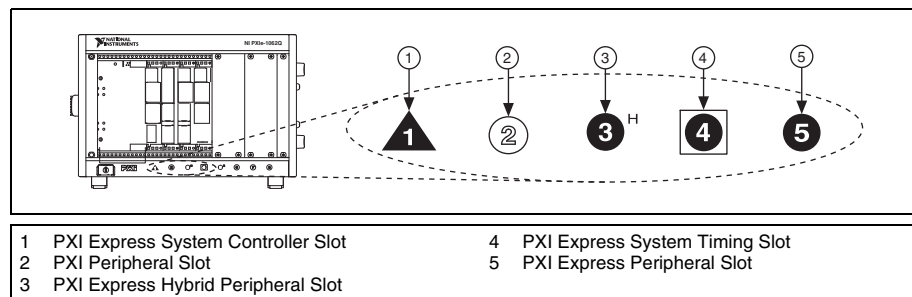

Figure 4. Symbols for PXI Express/PXI Express Hybrid/PXI Slots
2. Identify a supported PXI/PXI Express slot in the chassis. Figure 4 shows the symbols that indicate the slot types in a PXI/PXI Express chassis.